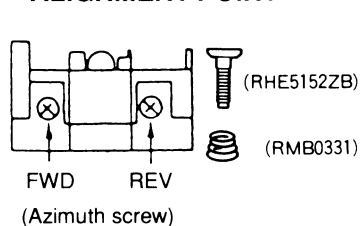

Fig. 2
- Please replace both azimuth adjustment screws (RHE5152ZB) and springs (RMB0331) used for the forward and reverse sides to new ones simultaneously when readjusting the head azimuth. (Shown in Fig. 2.) Even if you wish to readjust the head azimuth without replacing the screws and springs, a fine adjustment can not be done because of the screw-locking bond adhered to the azimuth screw and spring.